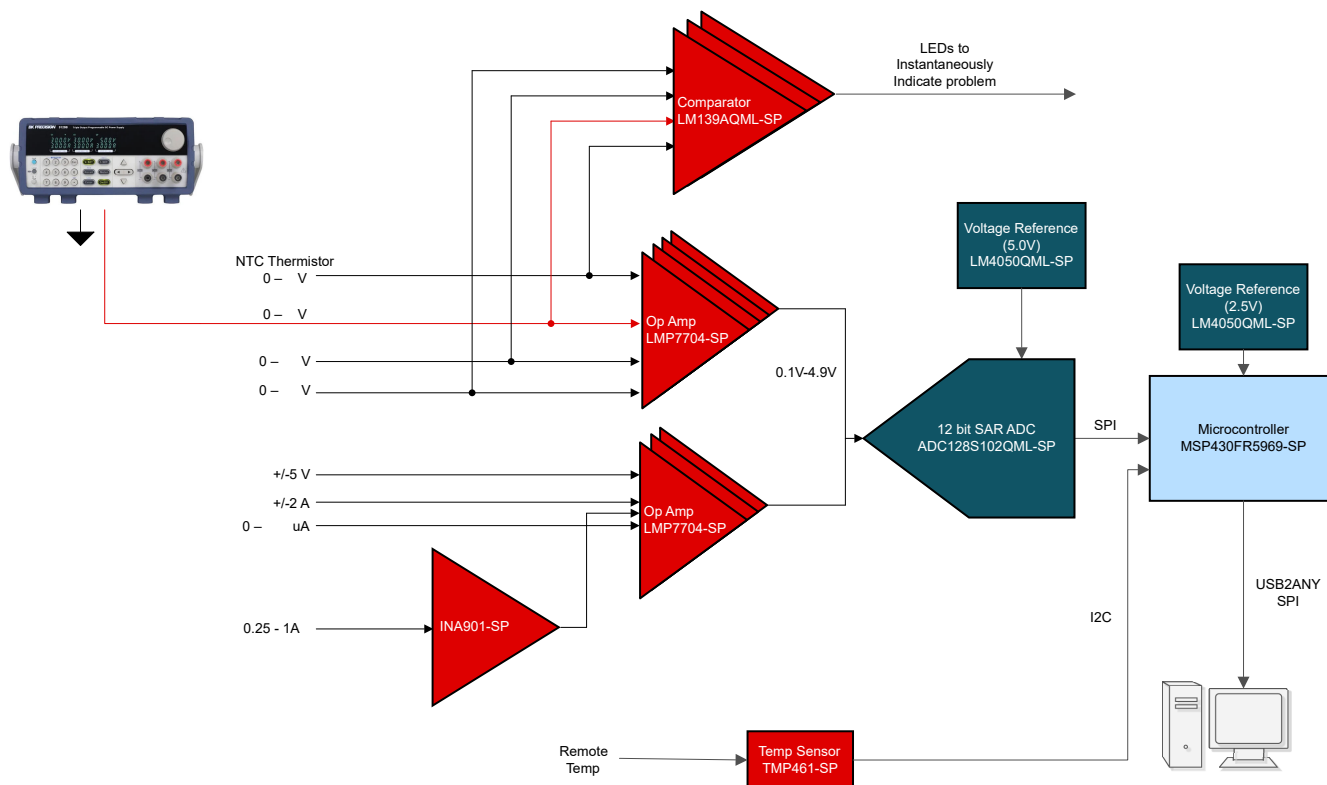

Figure 3-2. Voltage Monitor Test Setup
Figure 3-2 illustrates the voltage monitor test setup.
1. Connect the power supply to the desired terminal block as shown in Figure 3-2.